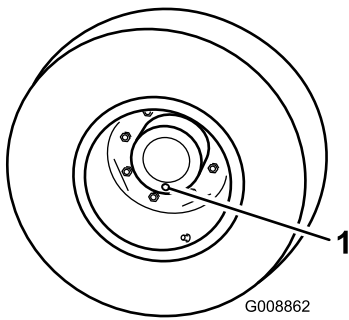

Figure 105
1. With the machine on a level surface, position a wheel so a check plug is at the lowest (6 o'clock) position (Figure 105).